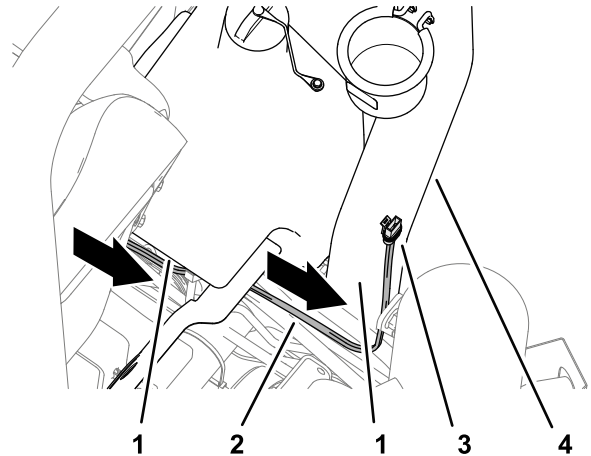

Figure 12
4. Route the power harness along the bottom of the fuel tank and up the right roll-bar tube (Figure 12).